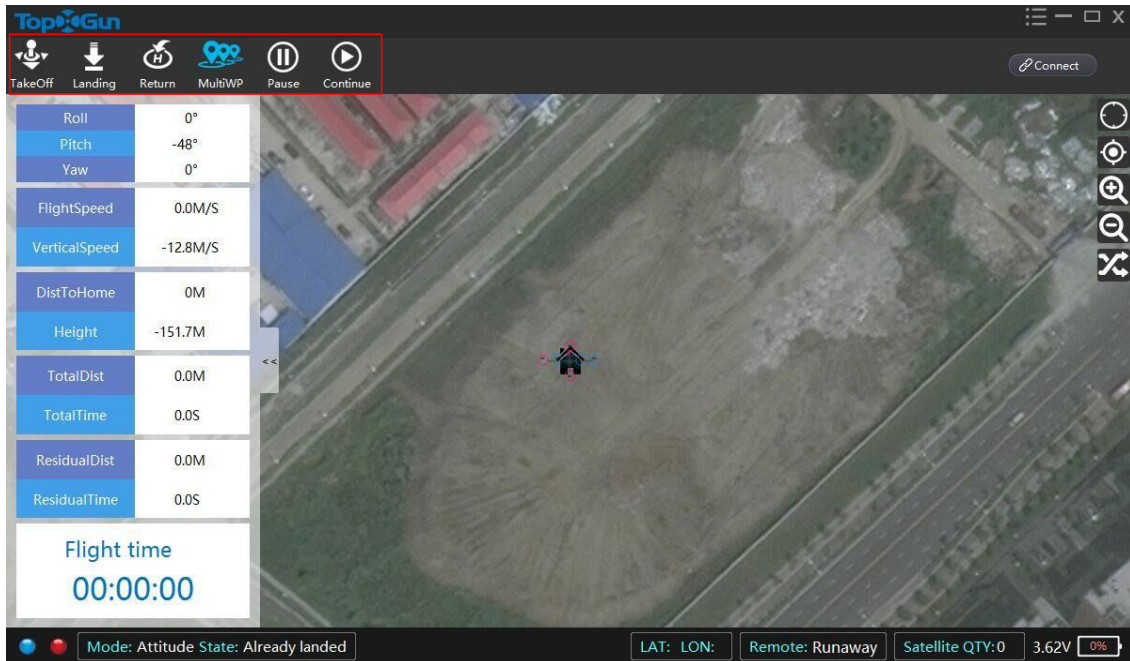

Figure 3 Functional Regions in Ground Station
The functional region in ground station is as shown in red box of Figure 3.  is the shift button of route flight mode, and it can change to route flight mode by clicking it.
Step2. Set route. Methods to create, modify and delete the waypoint are as shown in Figure 3.